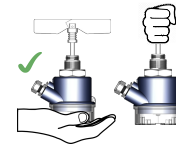

Figure 7: Correct Handling
6. When handling Orbit-Lite, do not lift them using their paddle as shown in Figure 7.